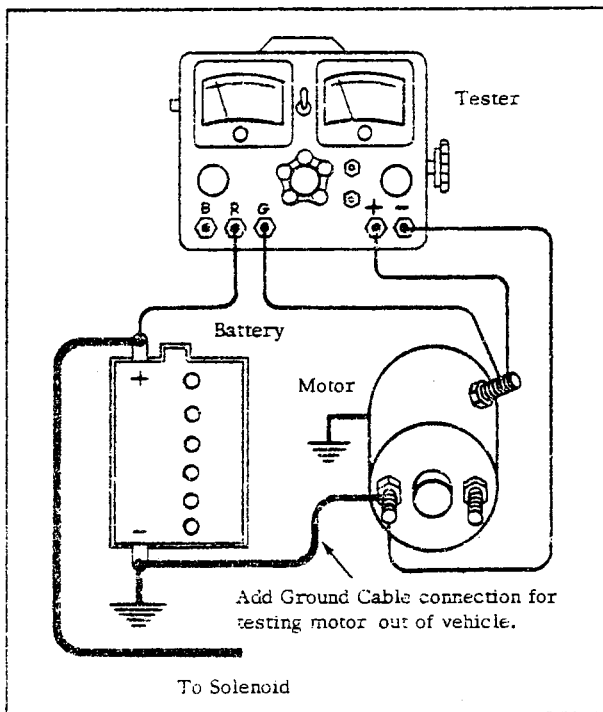

FIGURE 2
1. Set tester controls as in preceding Test 1, and connect tester to starter motor as shown in Figure 2.
Note: Free running motor test can be made with starter motor out of vehicle, as a check on repairs, etc. Remove starter motor and clamp it in a bench vise and use same hookup, except add a ground cable between test battery negative post and starter motor frame. (See Figure 2.), then proceed to make test.